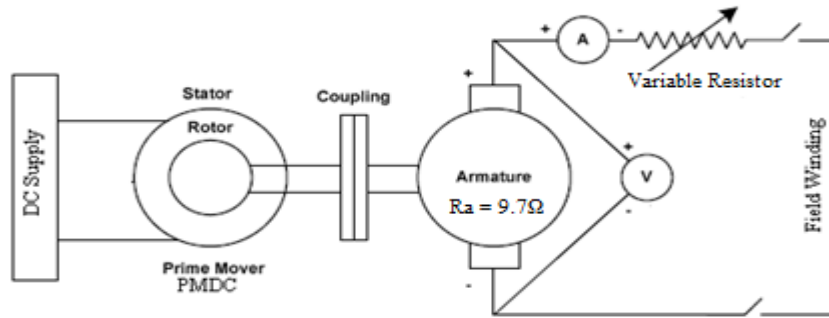

Figure 5.1. Circuit Diagram for No Load Characteristics
Due to residual magnetism in the poles, some emf is generated even when field current is zero. Hence the curve starts a little way up. It is seen that the first part of the curve is practically straight. This is due the fact that at low flux densities reluctance of iron path is being negligible, total reluctance is given by air gap reluctance which is constant. Hence the flux and consequently the generated emf are directly proportional to exciting current. However, at high flux densities iron path reluctance is being appreciable and straight relation between emf and field current no longer holds good. In other words, saturation of poles starts. The circuit diagram for No Load characteristics is shown in Figure 5.1
1. Connect the shunt field to armature terminal through the ammeter, switch and rheostat as shown in Figure 5.1.